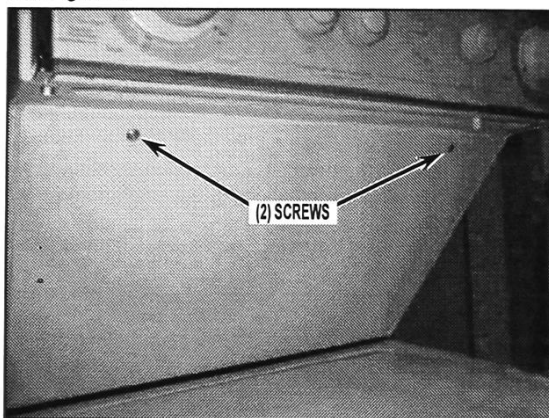

FIGURE 1
3. Remove the Access Panel by removing the two (2) screws securing panel to underneath portion of dryer. See Figure 1.